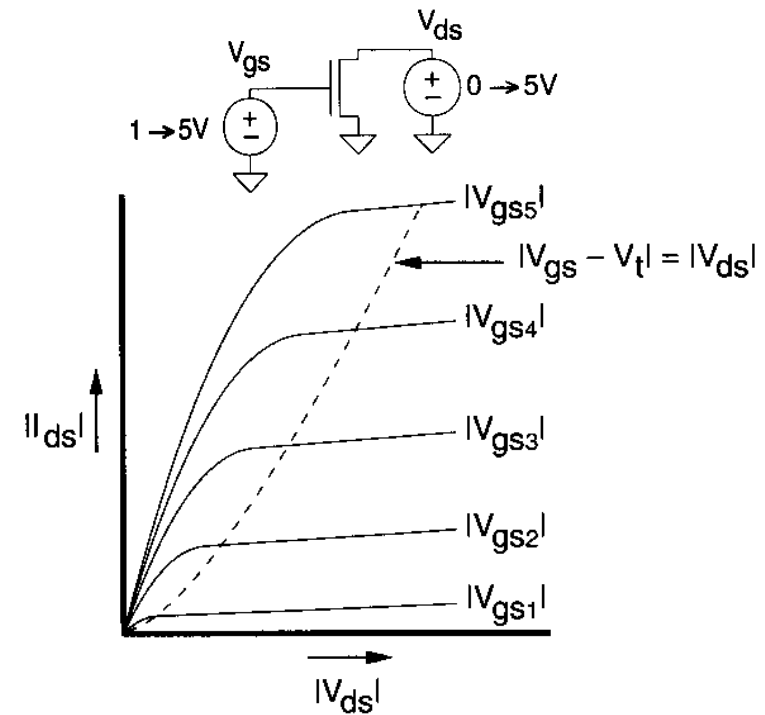

FIGURE 2.9 I - V characteristics for n- and p-transistors
- Figure 2.9 shows the voltage-current characteristics of pMOS and nMOS transistor.